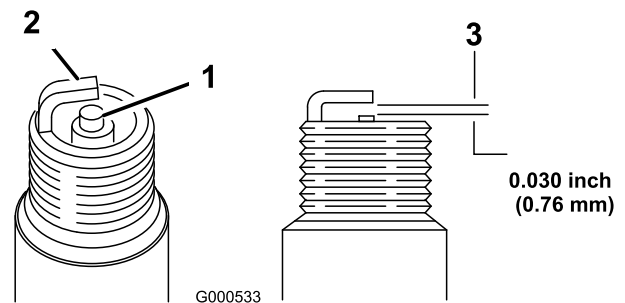

Figure 32
1. Look at the center of the spark plug (Figure 32). If you see light brown or gray on the insulator, the engine is operating properly. A black coating on the insulator usually means the air cleaner is dirty.
2. Check the gap between the center and side electrodes (Figure 32). Bend the side electrode (Figure 32) if the gap is not correct.